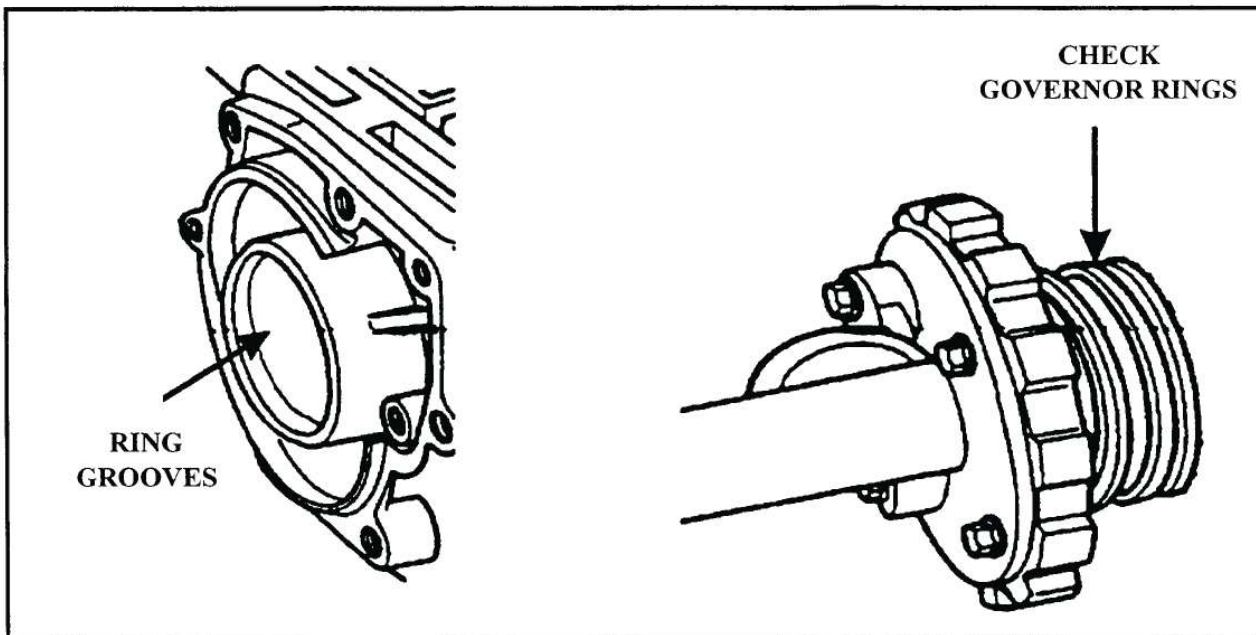

Figure 60
**CORRECTION:** Check governor bore in case for ring grooves as shown in Figure 60. If ring grooves are present, replace the case, or install a sleeve kit. Also check governor rings for wear and/or damage as shown in Figure 60. Replace as necessary. It is recommended that the Tin-Nickel coated rings be used.